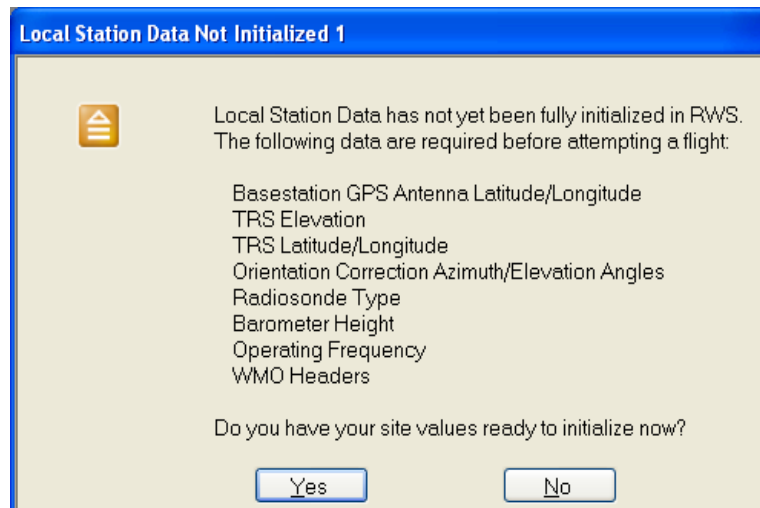

Figure B-15: Local Station Data Not Initialized 1 Window
- If the *Local Station Data Not Initialized 1* window displays (Figure B-15), click **Yes** to open the *Station Data Display* (Figure B-16).